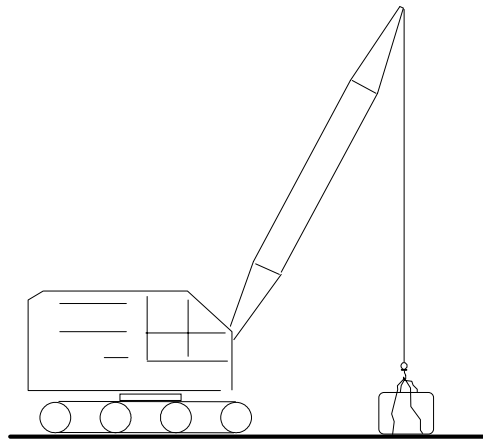

Figure 6
6. Leaving the test weight on the ground, lift the rigging, letting it hang slack from the hook (Fig. 6).